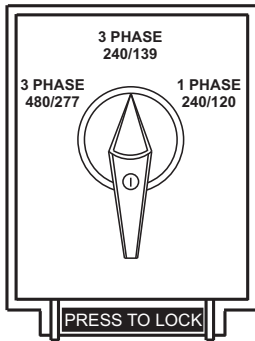

Figure 16. Voltage Selector Switch (3-Phase 240/139-Volt Position)
1. Place the **Voltage Selector switch** in the **3-phase 240/139-volt position** as shown in Figure 16.